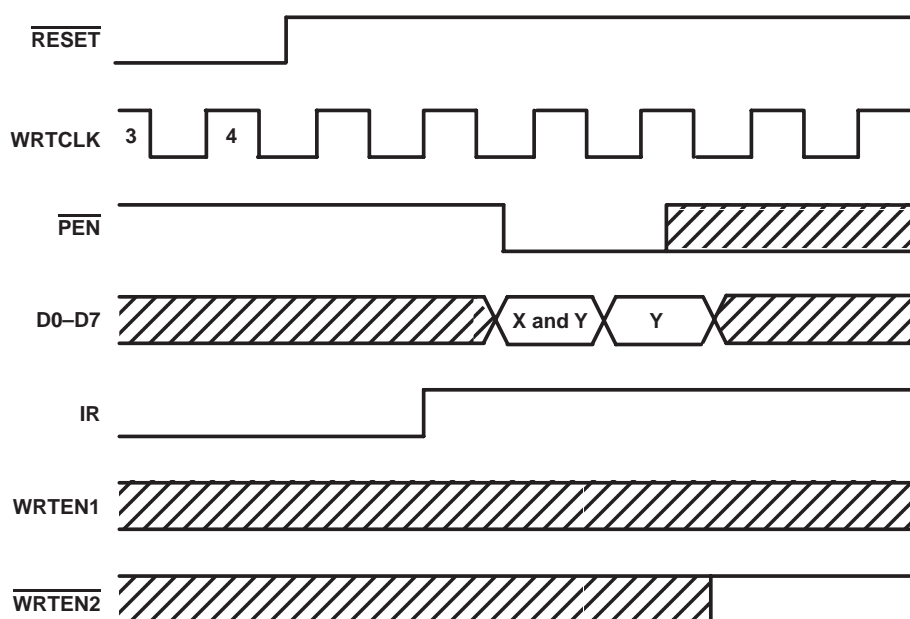

Figure 4. Programming X and Y Separately
Program enable (\overline{PEN}) should be held high throughout the reset cycle. \overline{PEN} can be brought low only when IR is high. On the following low-to-high transition of WRTCLK, the binary value on D0–D7 is stored as the almost-empty offset value (X) and the almost-full offset value (Y). Holding \overline{PEN} low for another low-to-high transition of WRTCLK reprograms Y to the binary value on D0–D7 at the time of the second WRTCLK low-to-high transition. When the offsets are being programmed, writes to the FIFO memory are disabled, regardless of the state of the write enables (WRTEN1, WRTEN2). A maximum value of 63 can be programmed for either X or Y (see Figure 4). To use the default values of $X = Y = 8$, \overline{PEN} must be held high.